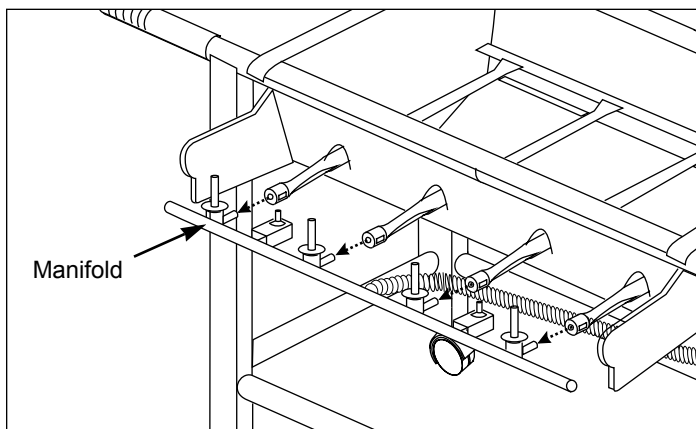

Figure 12
11. Pull the manifold out of the burners. Figure 12.